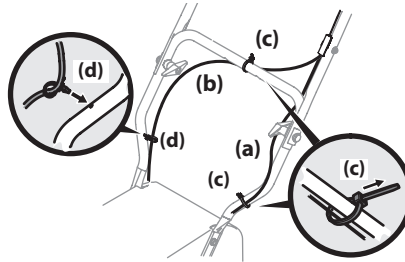

Figure 2-10
NOTE: The auger cable (a) routes down the left lower handle and the drive cable (b) is routed across the top of the lower handle and down the right side of the lower handle. See Figure 2-10.
12. Two cable ties (c) have been used to loosely tie the control cables to the lower handle, including the cable tie (c) you relocated in step 3. A push clip (d) is also included on the lower drive cable (b). Position cable ties (c) now, as in Figure 2-10, and tighten to secure cables (a & b) to the lower handle. Trim off excess material of cable ties (c). If not already installed, push the clip (d) on the drive cable (b) into the hole in the handle provided as shown in the left inset.